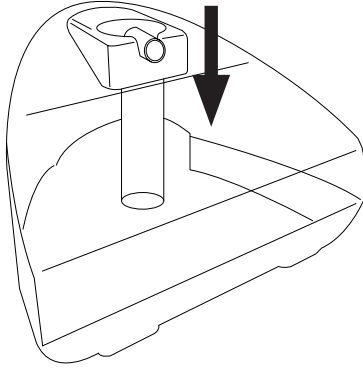

Fig.2
- ◆ Respect the MAX level (Fig. 2)
- ◆ Remove the tank from the appliance by pressing the tank release button (D) located at the base of the tank or fill the tank through the filling hole (A).
- ◆ Fill the tank taking care to observe the MAX level (Fig.2).
- ◆ Fill the deposit taking care to observe the MAX level (Fig. 2)